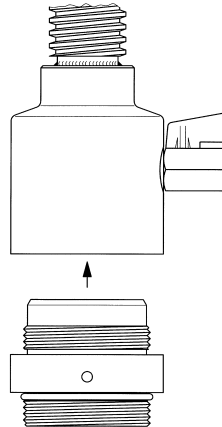

Figure 23
- Choose the adapter that matches the thread of the saddle and screw it into the machine dome. See *Figure 23*.